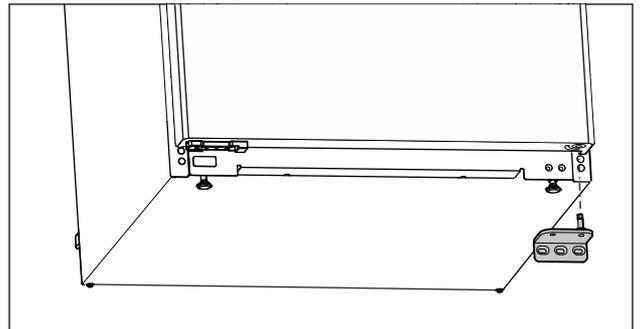

Fig. 8
- ▶ Remove the swap bearing block downwards. (see Fig. 8)